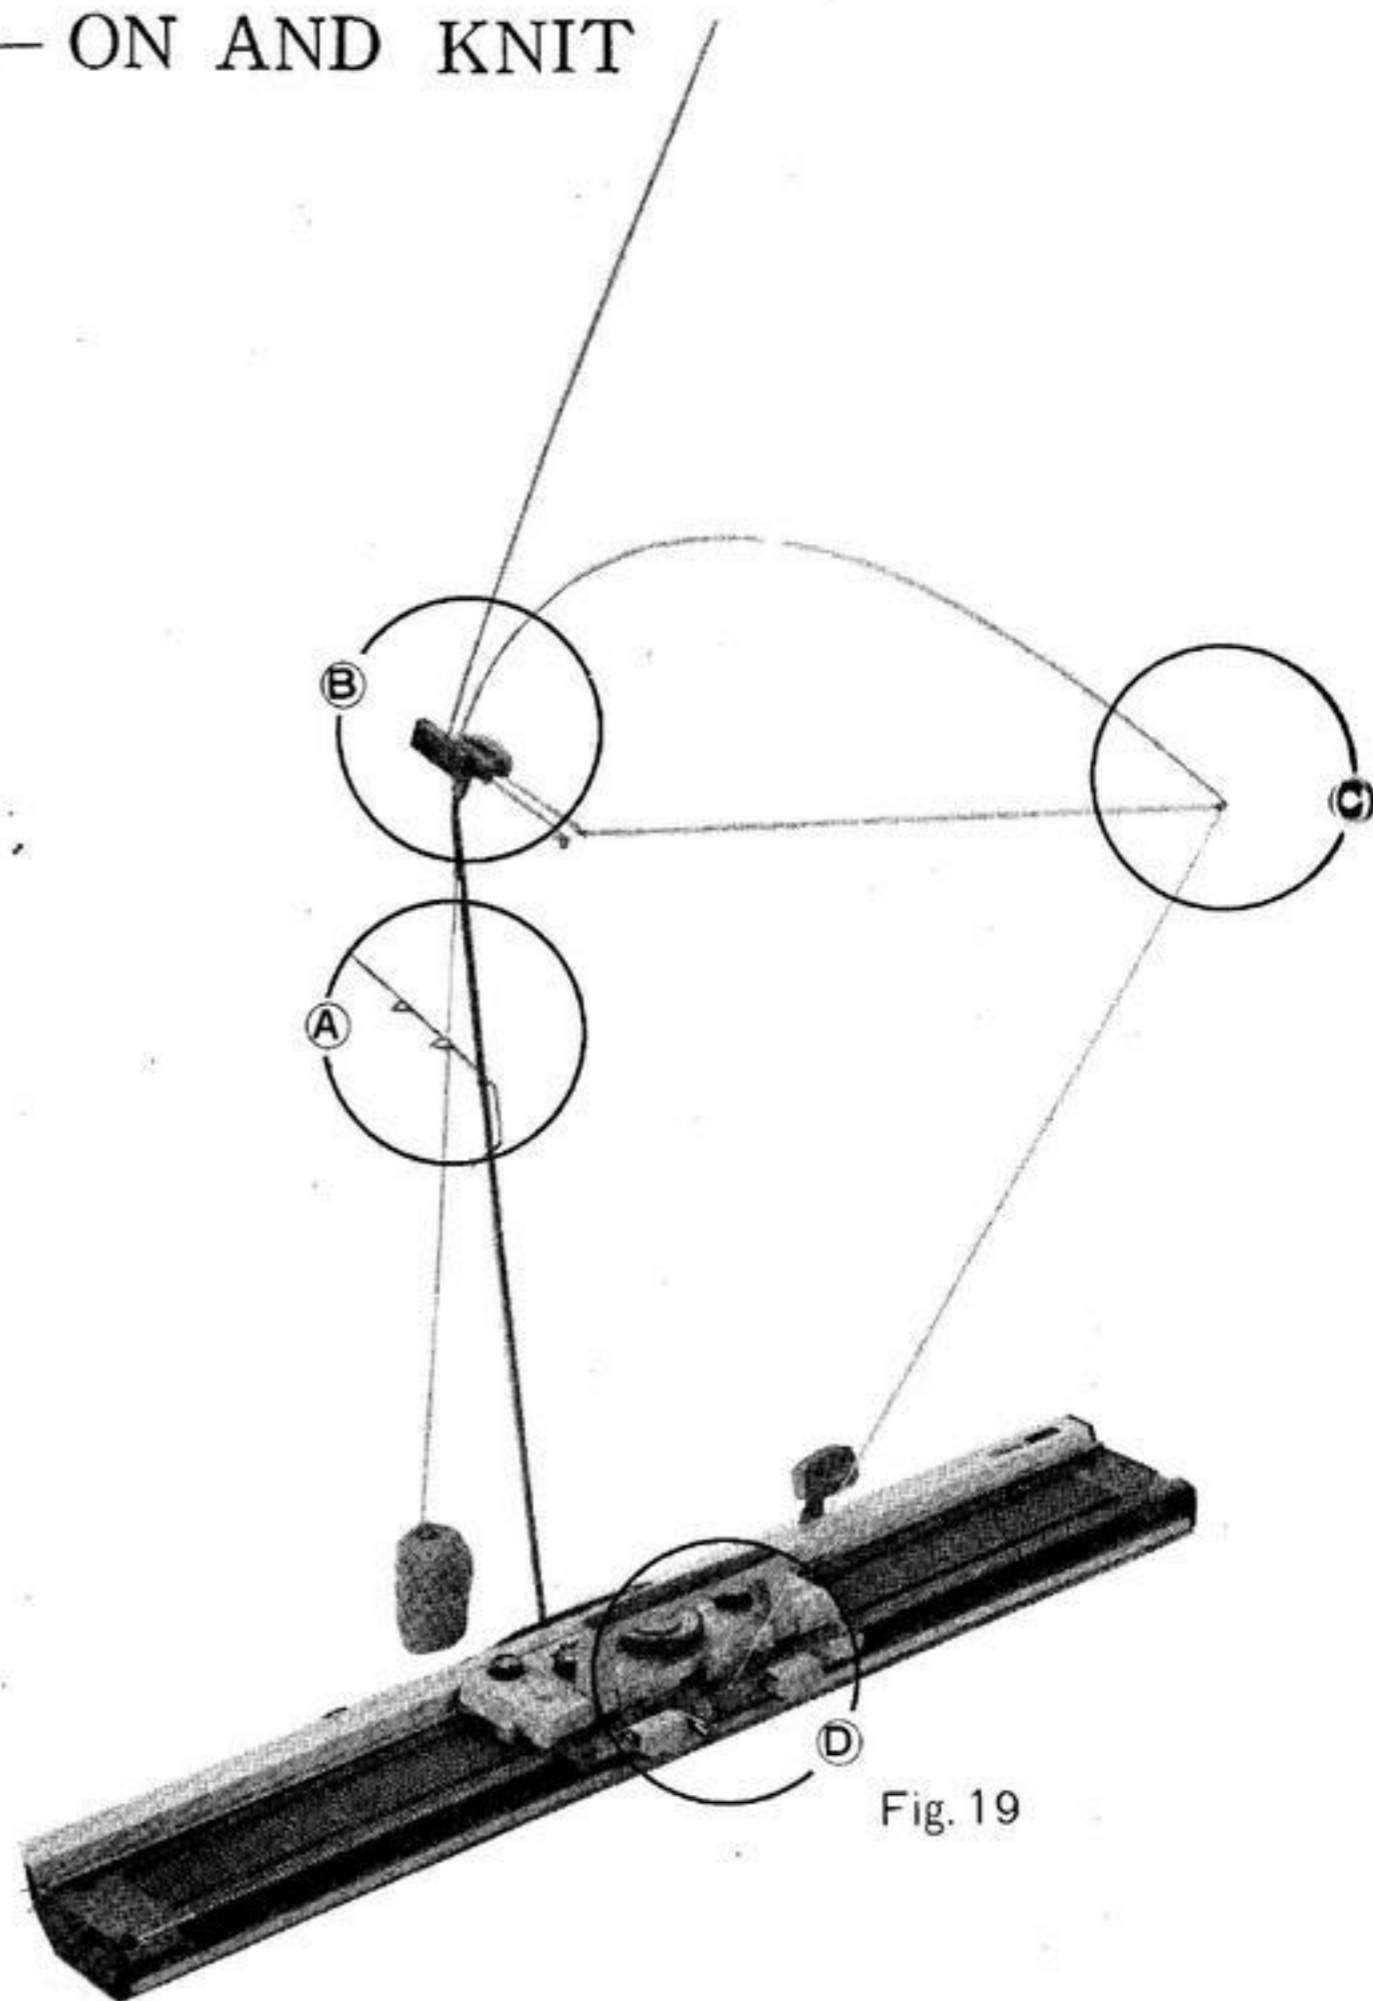
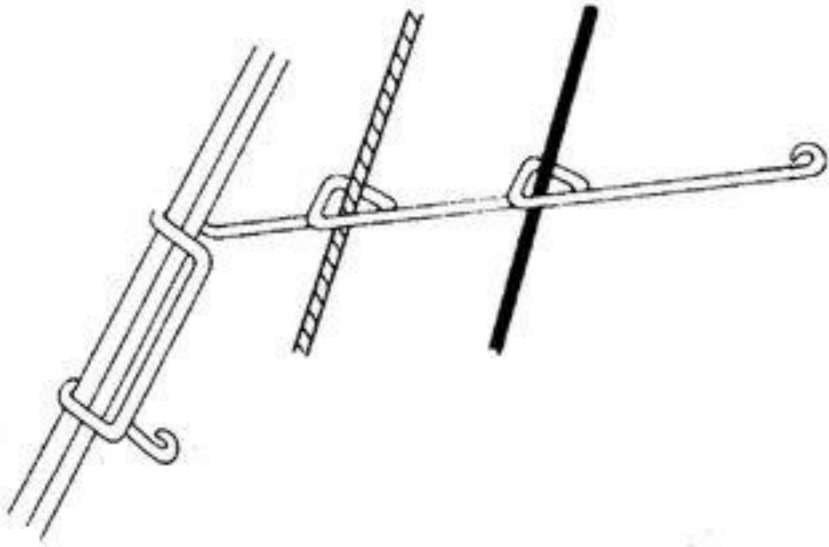
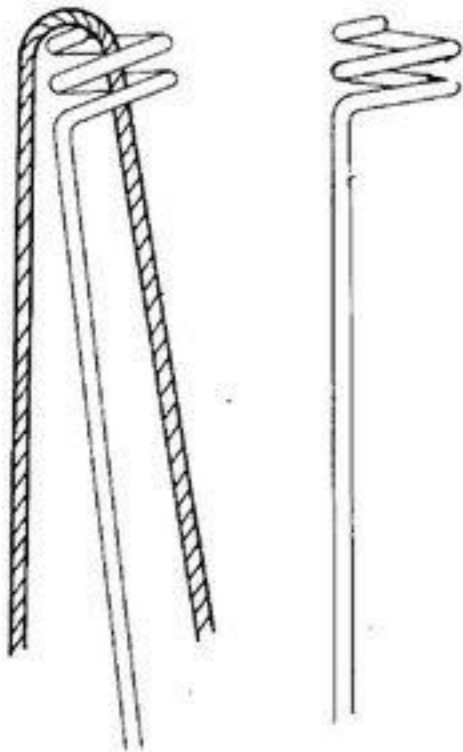
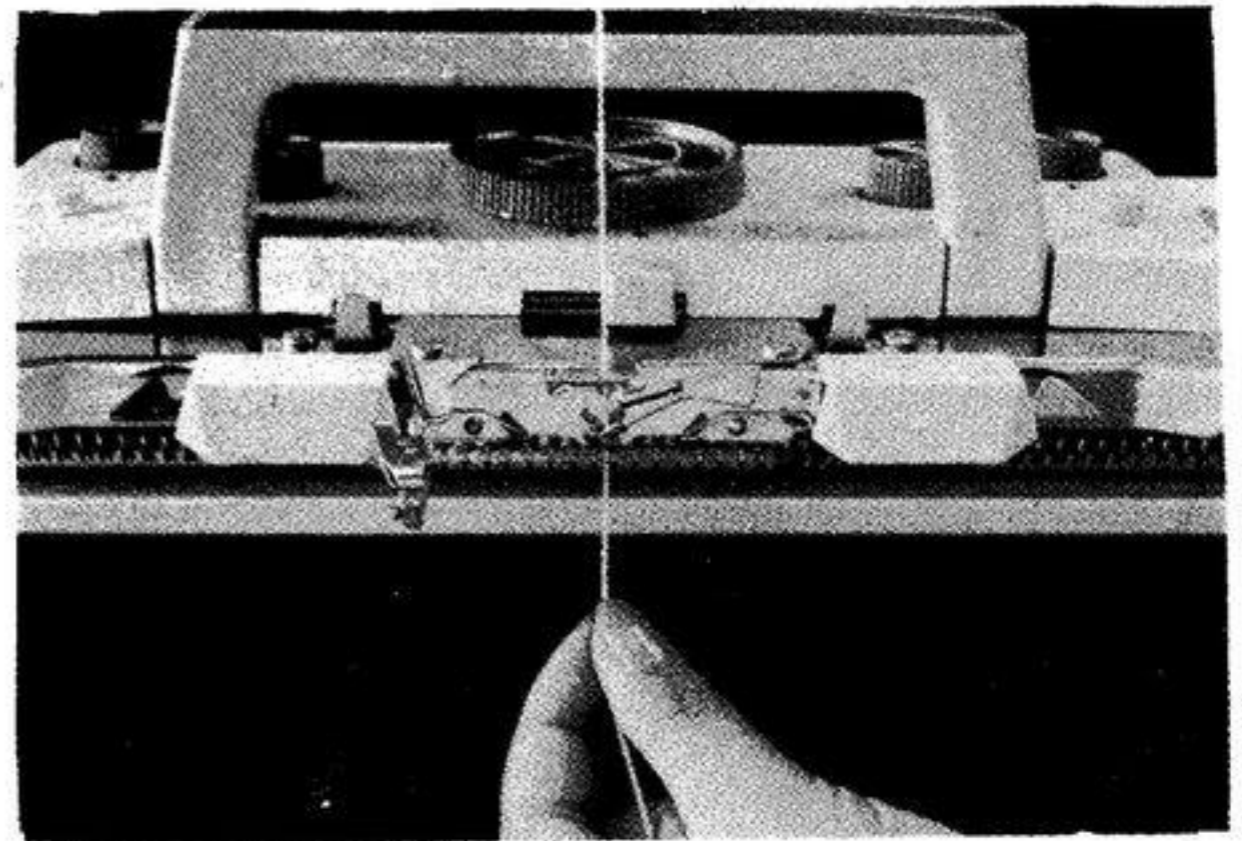

Fig. 19
Fig. 20
Fig. 22
Fig. 23
- a) through one of the eyelets of the Yarn Guide Wire (Fig. 19—A and Fig. 20)
- b) up through Yarn Trap Unit (Fig. 19—B and Fig. 21—A)
- d) through the pigtail at the end of the long wire take-up arm (Fig. 19—C and Fig. 22)
- e) down to the carriage feeder. (Fig. 19—D and Fig. 23)
The function of the Overhead Feeder is to guide the wool from ball or cone to the Carriage Feeder and by means of the yarn trap unit (B) to bend the long wire take-up arm downwards during knitting as shown in Fig. 19—C